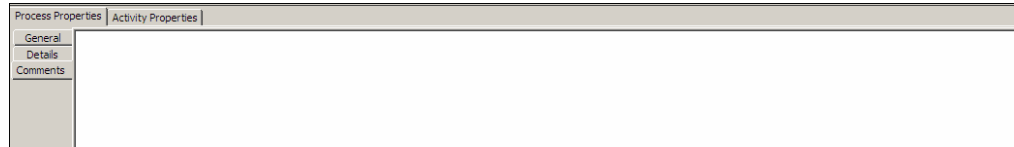

Figure 7.16: Comments Properties
7. Click **Comments** tab to display comments properties for the process model (see Figure 7.16).